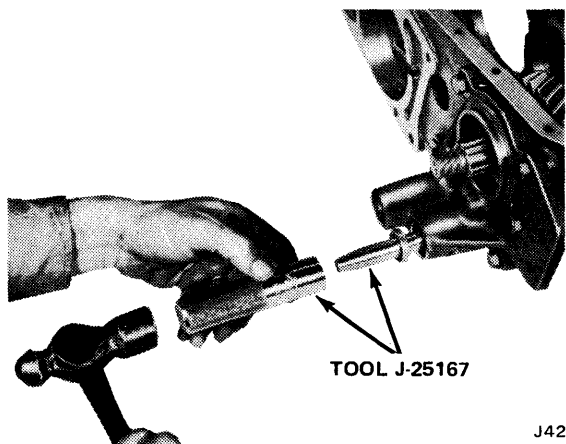

Fig. 8-7 Shift Rod Oil Seal Installation
(8) Install replacement seal using Thimble and Driver Tool J-25167 (fig. 8-7).
(5) Install replacement seal using Thimble and Driver Tool J-25167 (fig. 8-7).
(6) Install clevis pins connecting control links to transfer case shift rods. Use replacement cotter pins to secure clevis pins.
(7) Lower vehicle.